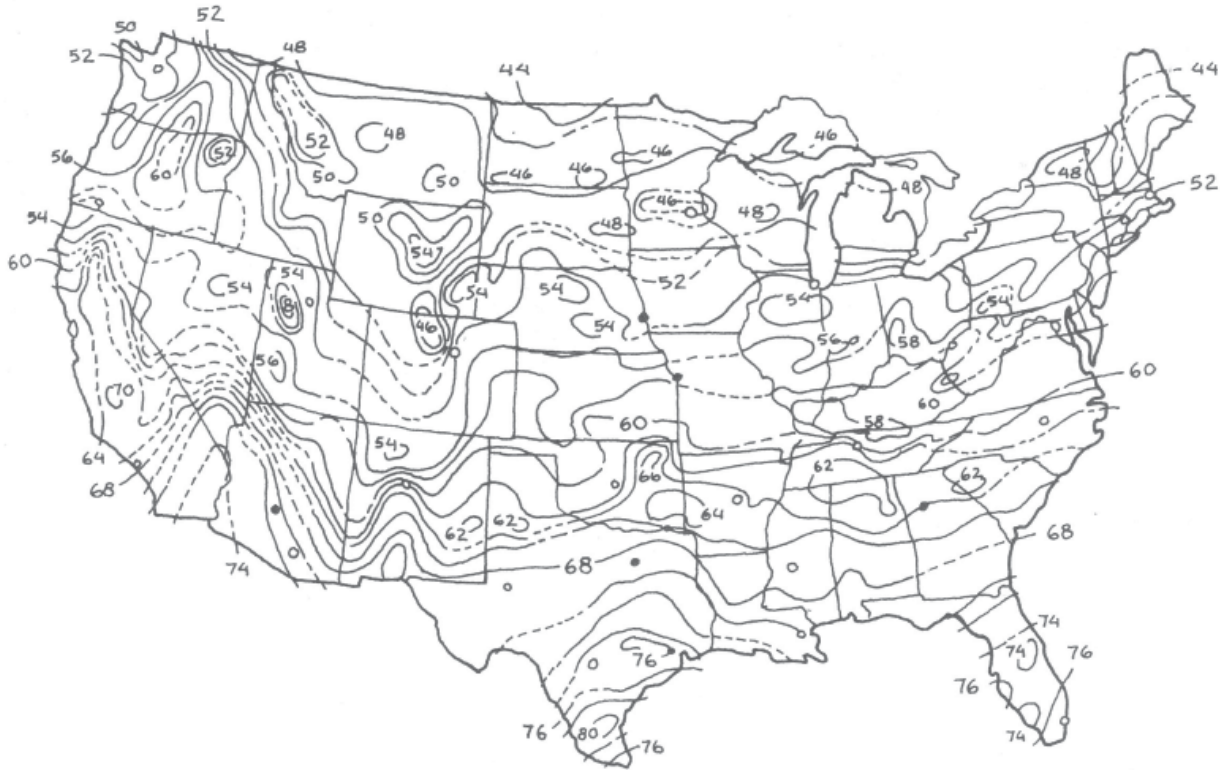

Figure E4.6.1
1. Determine your site's groundwater temperature [Figure E4.6.1].